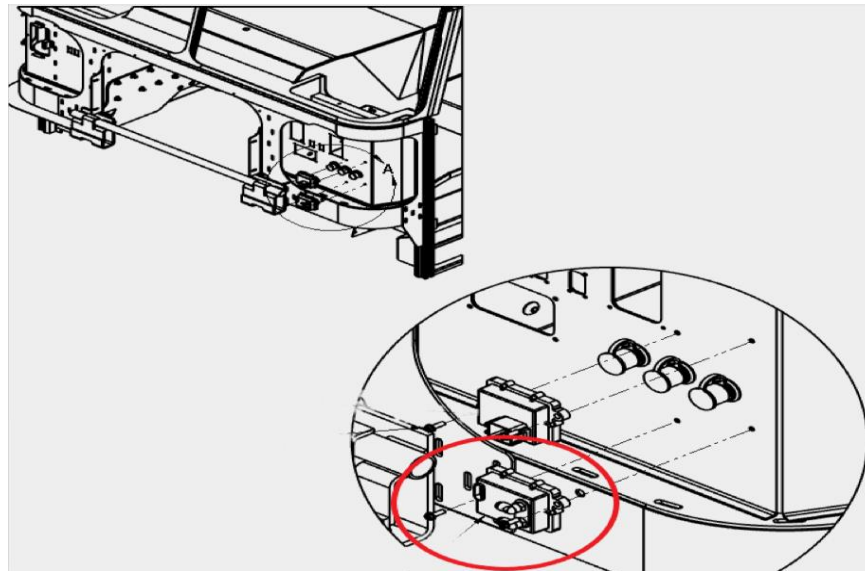

Figure 4.2
6. Locate SDPT module as shown in Figure 4.2